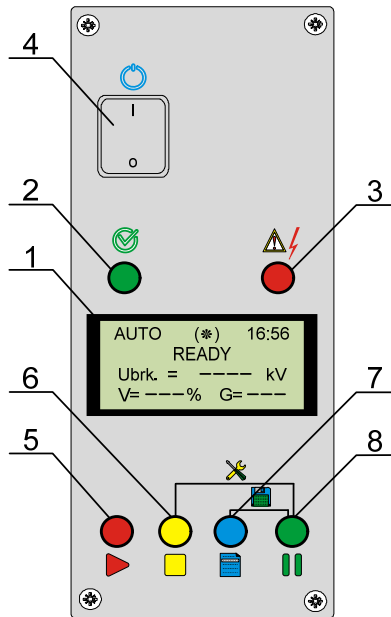

Figure 2
1.4.3 To the left of test compartment located control panel 9, which contains following control elements and indication (see figure 2):